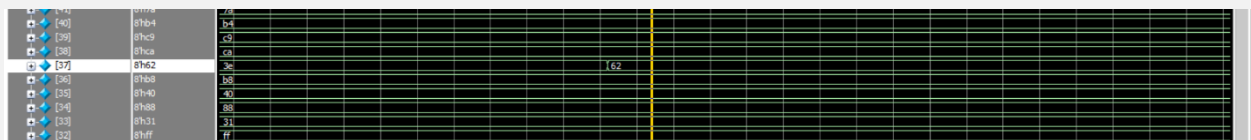

Figure 2: memory assigning check
- 1.2. Figure 2: Memory Assignment